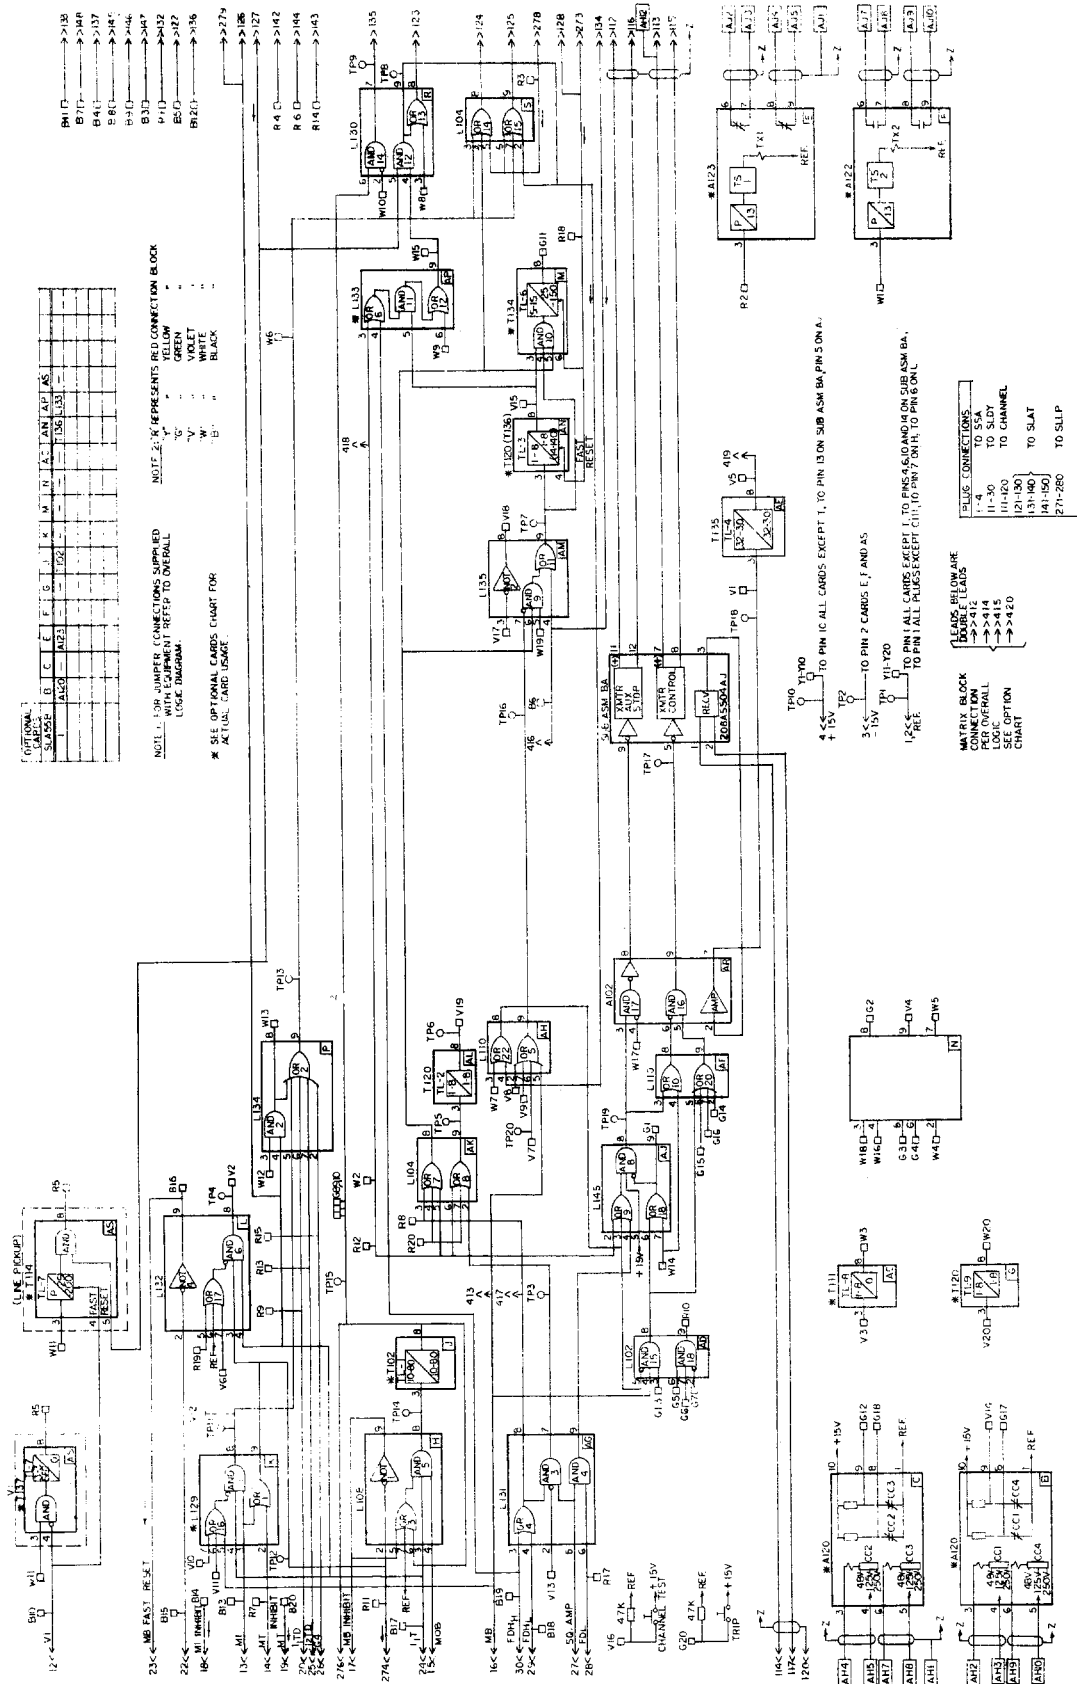
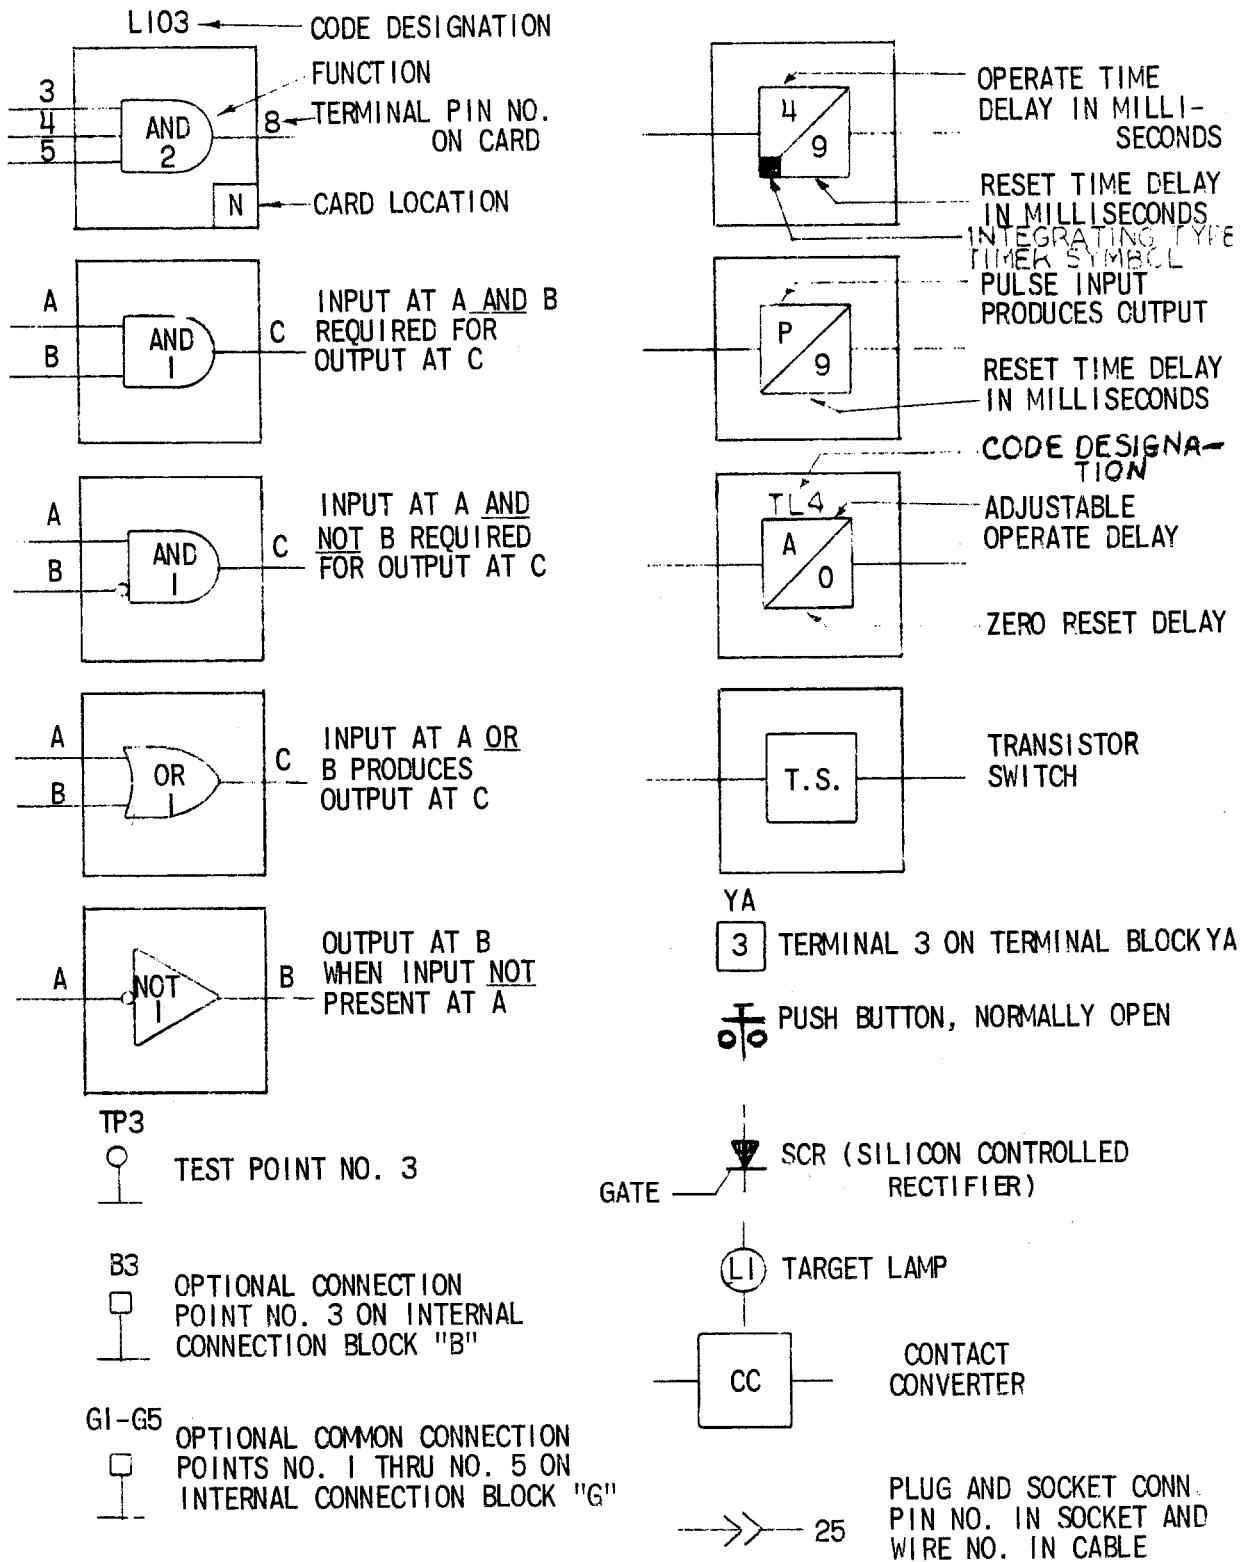

Fig. 1 (0138D3844-0) Internal Connections for the Type SLA55B Relay
Fig. 4 (0227A2047-1) Logic and Internal Connection Diagram Legend
The symbols used on the internal connection diagram (Fig. 1) are explained by the legend shown in Fig. 4.
Type SLA55B relay has provisions to provide data monitoring outputs. Some of the data monitoring (DLA) points are hard wired into the logic as shown in Fig. 1. Other data monitoring points are selected on the matrix blocks and are listed on the option chart. Any matrix block points which are not used for more than one connection may be monitored using the double leads 412, 414, 415 and 420.
Other logic options are selected by means of taper tip jumpers and matrix blocks. These matrix blocks are located in the rear of the unit as shown in Fig. 1. The green (G) matrix block has twenty individual points with points eight, nine and ten wired together. The yellow (Y) block has twenty points which are grouped in ten common points; 1 to 10 are tied to +15 VDC, 11 to 20 are tied to reference. The white, red, black and violet matrix blocks have 20 individual matrix points. A tool for inserting and removing the taper tip jumpers is supplied with each relay.
Operation of the SLA55B unit can be checked by observing the signals at the twenty test points (TP1 to TP20) in the SLA55B, by observing the operation of the associated channel equipment, or by observing the output functions in the associated Type SLAT tripping relay. The test points are located on two test cards in positions T and AT, and are numbered 1 to 20 from top to bottom. TP1 is the reference bus for the logic circuit; TP10 is at +15 VDC. The remaining points are located at various strategic points throughout the logic as shown on the internal connection diagram (Fig. 1). Test point voltages can be monitored with a portable high impedance voltmeter, the voltmeter on the test panel of the associated equipment, or an oscilloscope.